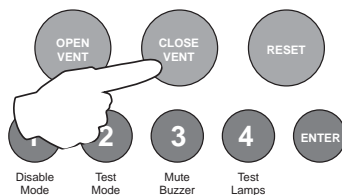

fig 1
3. Only when it is safe to do so should the alarms be silenced. Activate the controls by turning the key switch or by entering the four digit code (see Activate Controls in the OPERATING section) and press the Mute Buzzer button (3) to silence the panel buzzer and any external sounders.
5. If required the vent can be closed by pressing the (blue) Close Vent button (fig 1). (regardless of alarm condition, this should only be done if no smoke is present).